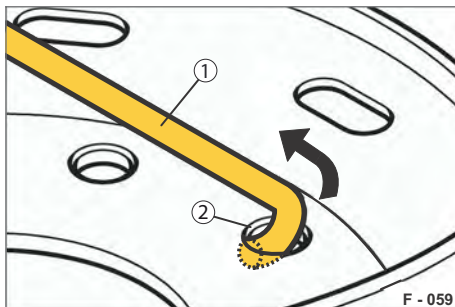

Fig. 78 Removing the hook bolt
- ▶ Pull the hook bolt (Fig. 78/1) upward through the bolt holes (Fig. 78/2) of the spare wheel.
- ▶ Lead the hook bolt (Fig. 78/1) through the pin hole (Fig. 78/2) of the spare wheel.